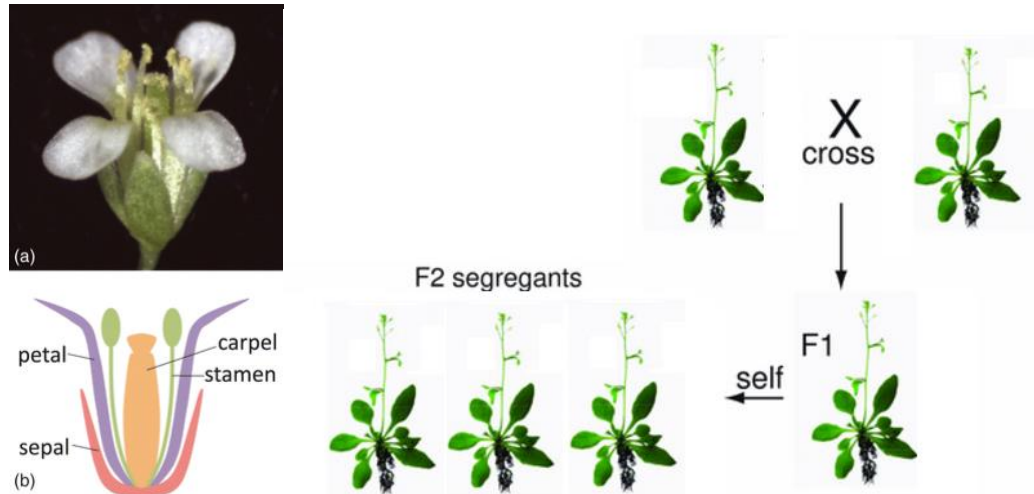

Figure 6: *A. thaliana* flowers and crossing scheme
- Some of the plants in our practical should be double (recessive) mutants. How was the double mutant generated in the first place? Note that *A. thaliana* normally self-fertilises but it can be experimentally outcrossed (Figure 6). What lines could have been crossed to produce the double mutant?
- What does it involve, in practice, crossing two plant lines? Think about flowers (Figure 6).
- The F1 generation is then allowed to self-fertilise (Figure 6). Draw a punnet square to identify the different genotypes of the offspring (F2 generation). Write the gametes produced by the F1 plant in the first row and column (boxes shaded in grey). Assume that the two genes are unlinked (this will be our null hypothesis).